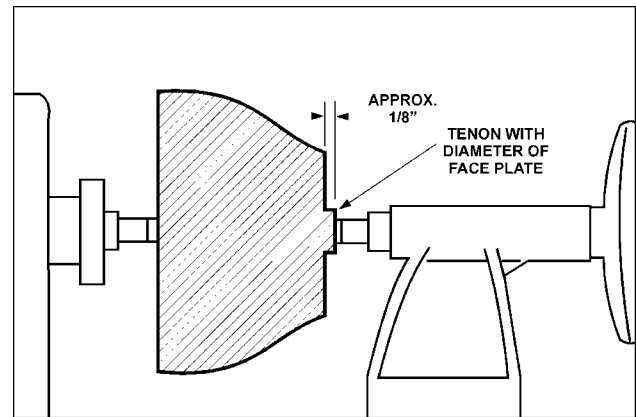

Fig. 21
3. Slip spur center into headstock taper and bring the tailstock, with a live center into position. Lock tailstock to bed and advance spindle in order to seat the cup center into workpiece, see Figure 21. Tighten quill lock.
8. As the bowl takes shape, work on the bottom (tailstock end) to accommodate attaching a face plate, see Figure 21.
9. Turn a short tenon (about 1/8" long) the size of the hole in the faceplate, see Figure 21. This will allow centering the workpiece when the faceplate is attached. **Note:** If you plan to use a chuck, turn a tenon of appropriate length and diameter to fit your chuck.